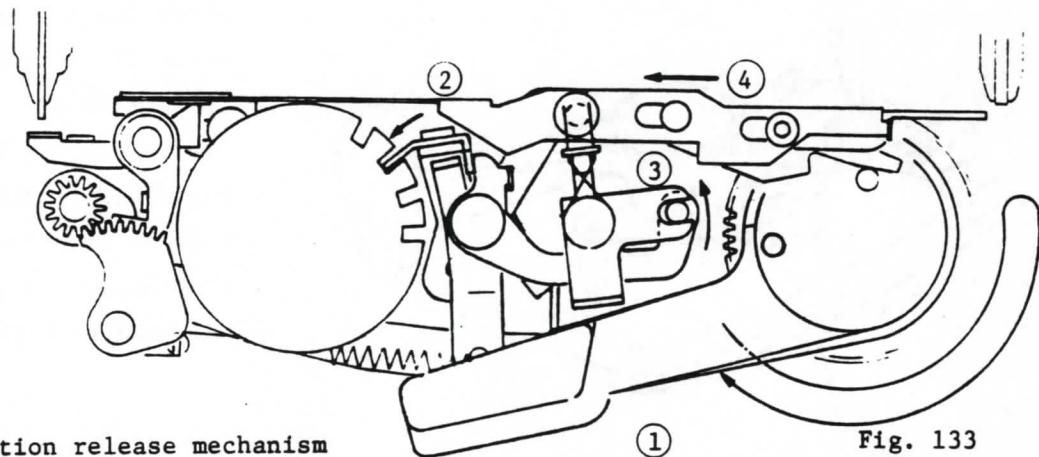

Fig. 133
By advancing Winding lever, continuous operations from ① to ④ will follow releasing the preventive mechanism as shown in Fig. 133.